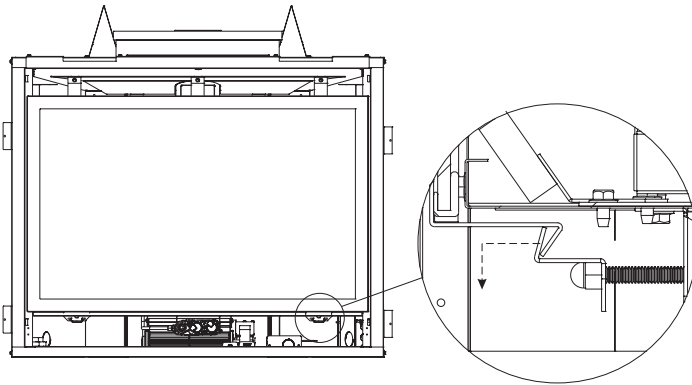

Figure 92
2. Disengage the two glass latches. Pull out and down on latch and then release. See Figure 92.